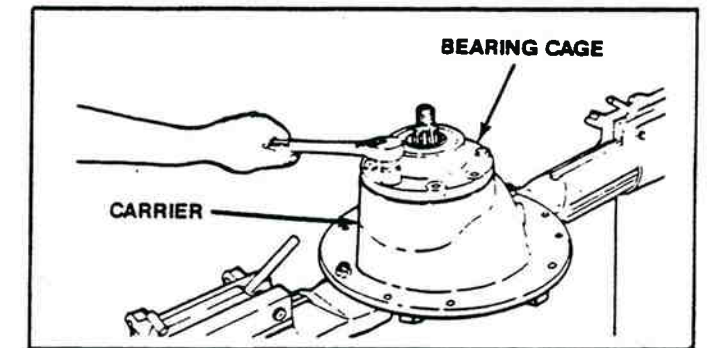

Figure 2-23. Removing Bearing Cage Capscrews.
4. Remove the capscrews and washers that hold the bearing cage in the carrier (Figure 2-23).